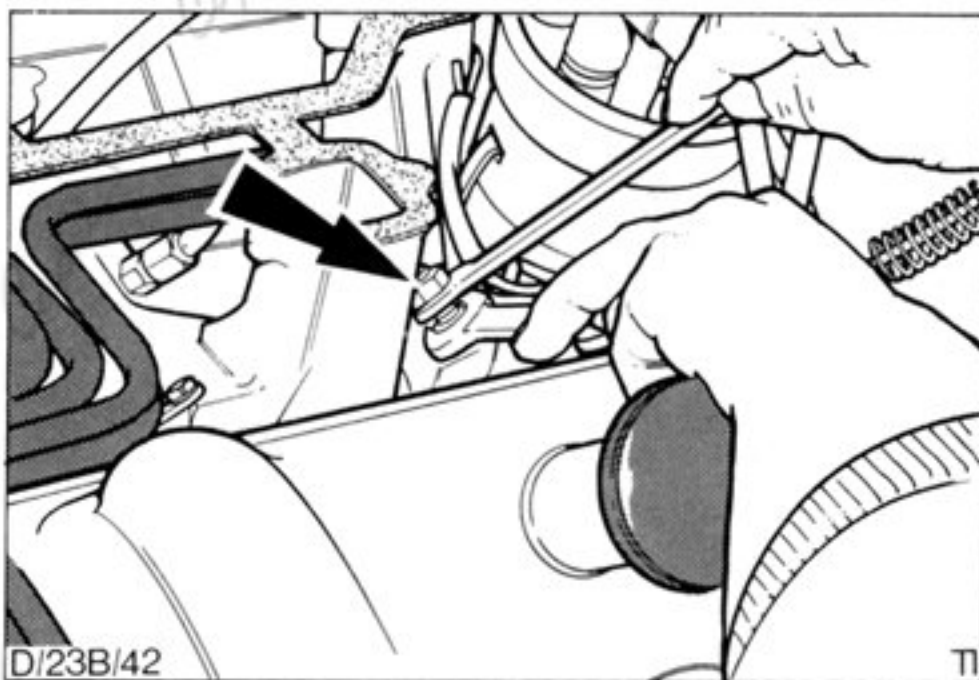

Fig.96. Injector supply pipe removal.
5. Disconnect injector supply pipes, Fig.96.